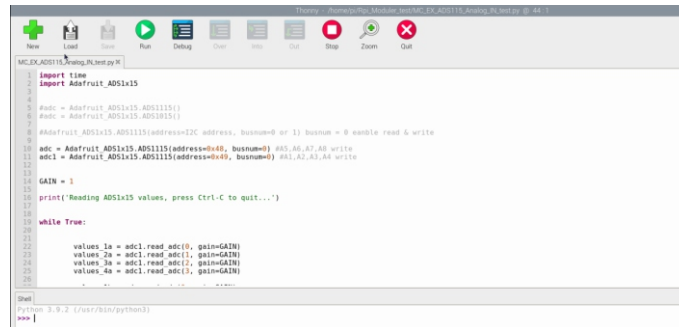

Figure 15: The example programs open in Thonny Python IDE.
5. The python program will open on default Thonny Python IDE. Click RUN for start the program shown in Figure 15.